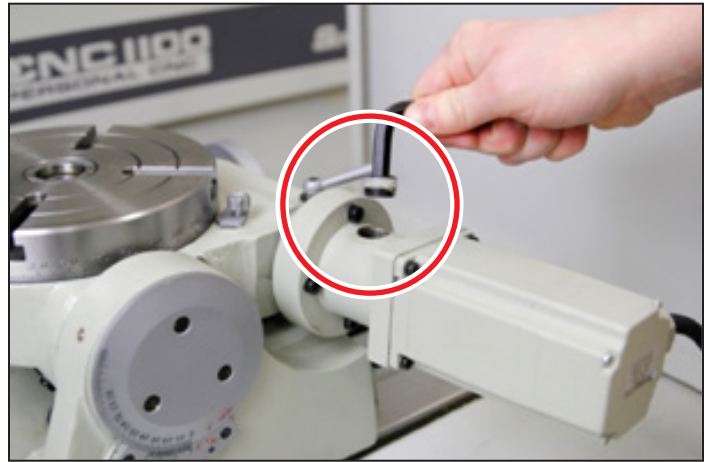

Figure 29
1. Remove the set screw on the motor mount (see **Figure 29**).
There are several steps that ensure the rotary table remains resistant to water/coolant. Use thread seal tape (PTFE) to seal the set screw on the motor mount (see **Figure 29**). Position the motor so its cord points downward when the motor is engaged. Depending on the operational position (horizontal or vertical), this may require repositioning of the motor with respect to the motor mount. The rotary table is designed to operate in the presence of coolant, but not when submersed in coolant. If coolant is dripping over the edge, this is rarely a problem. If there is a serious external coolant flow, and the joint between the rotating table and the stationary body is submersed, this is a problem.